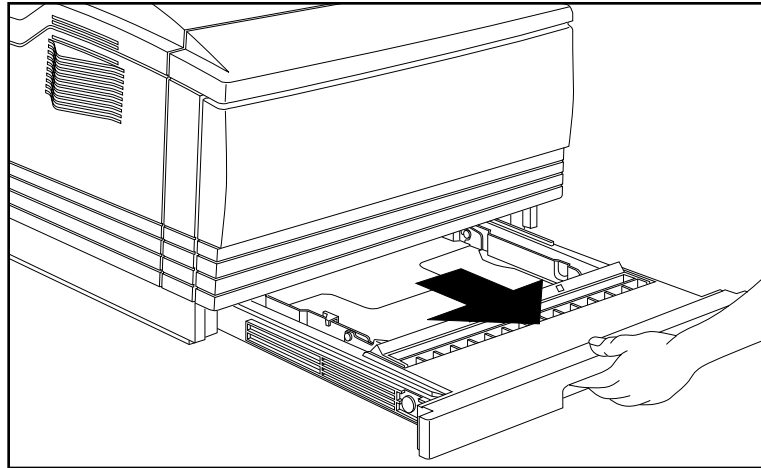

Fig. 2.11 Remove the Paper Cassette
1. Pull the paper cassette straight out from the printer (fig. 2.11).